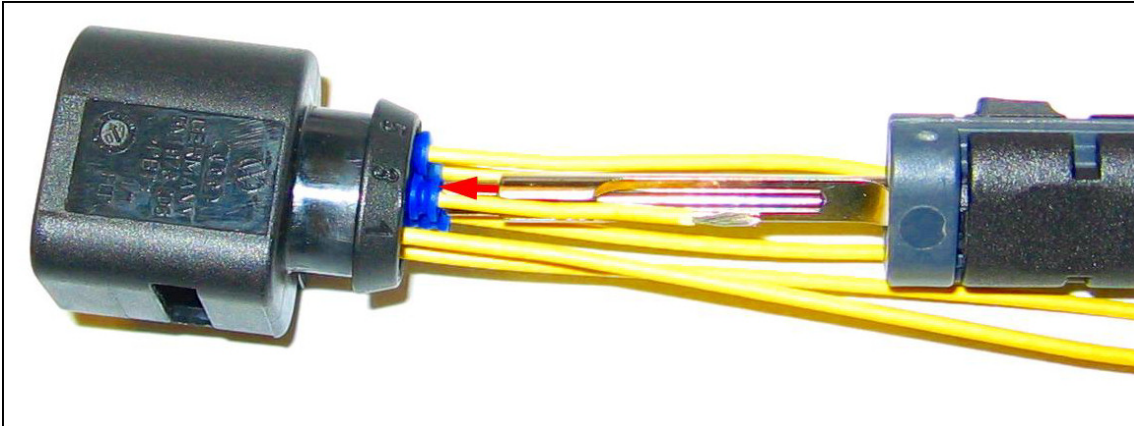

Figure 3. The single wire seal, slid as far as the stop
- Using an appropriate assembly tool, slide the single wire seal up repair wire until it contacts housing. Continue to slide seal into housing as far as the stop (Figure 3).